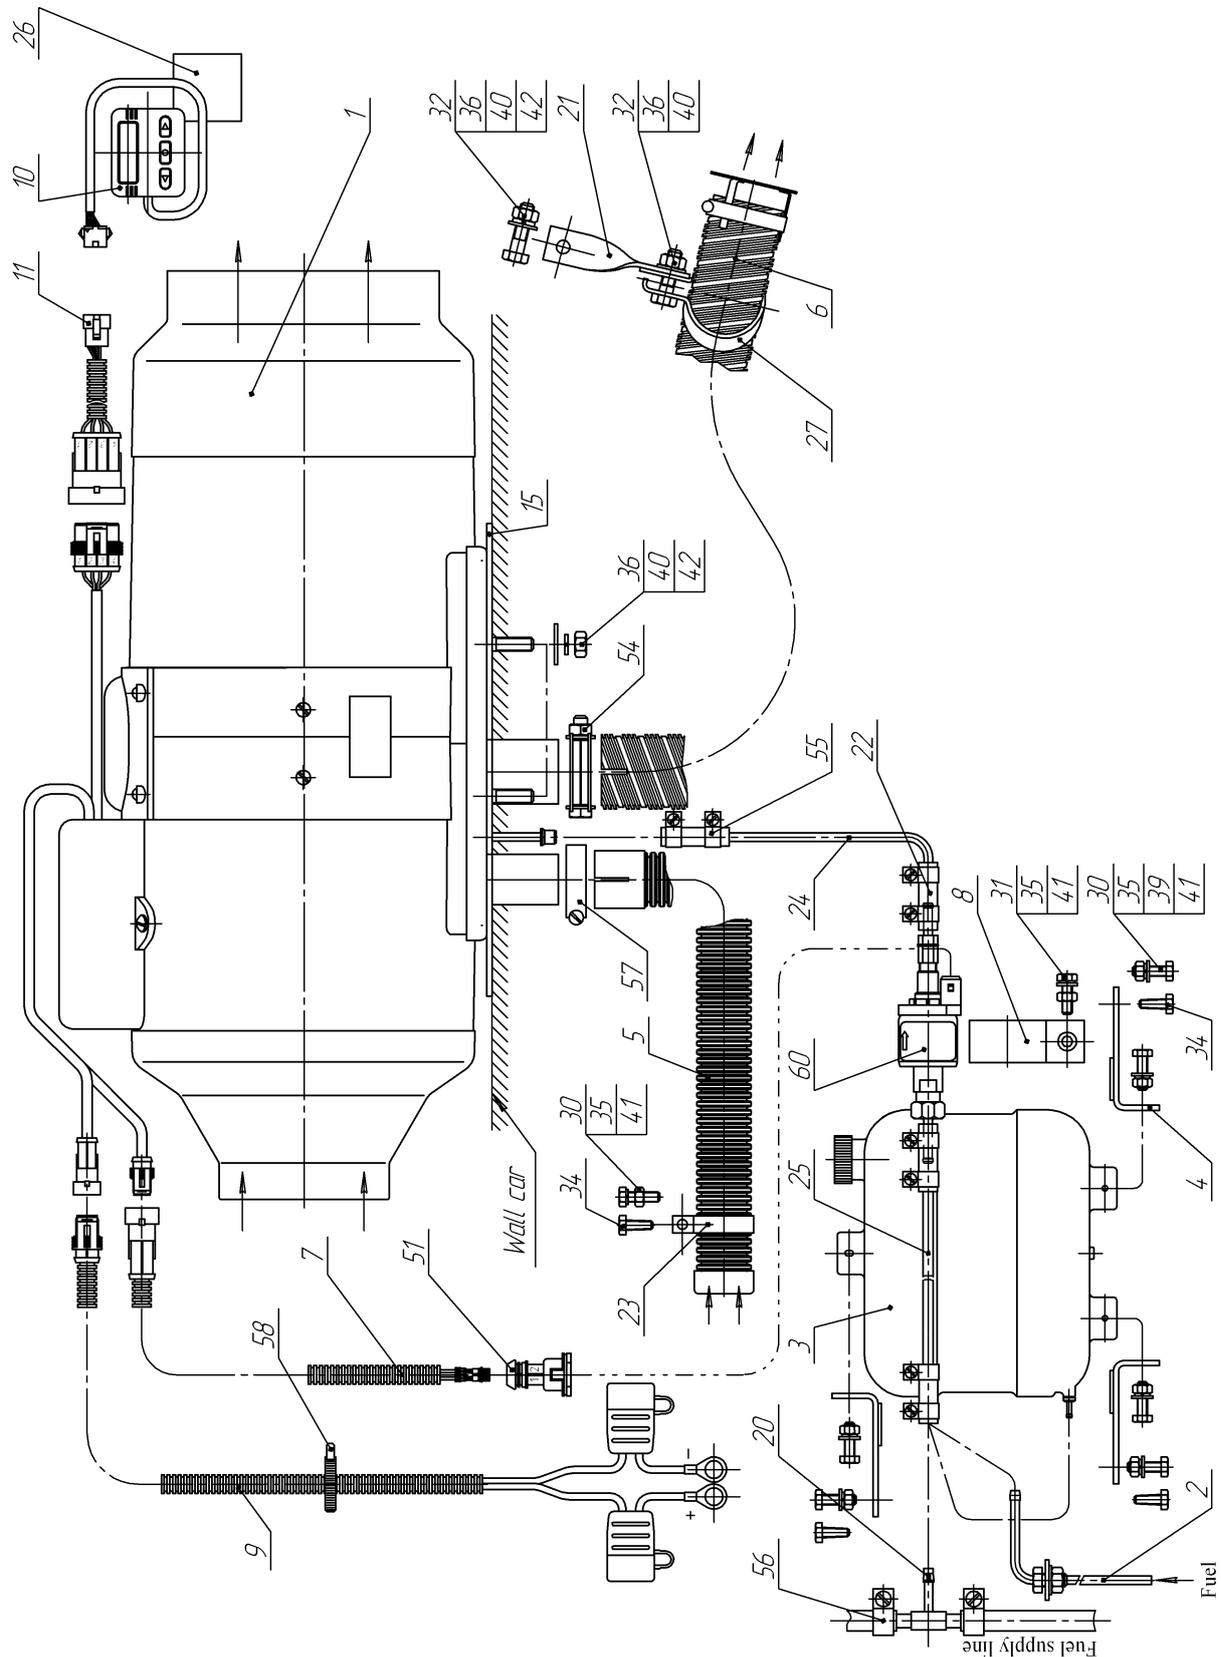
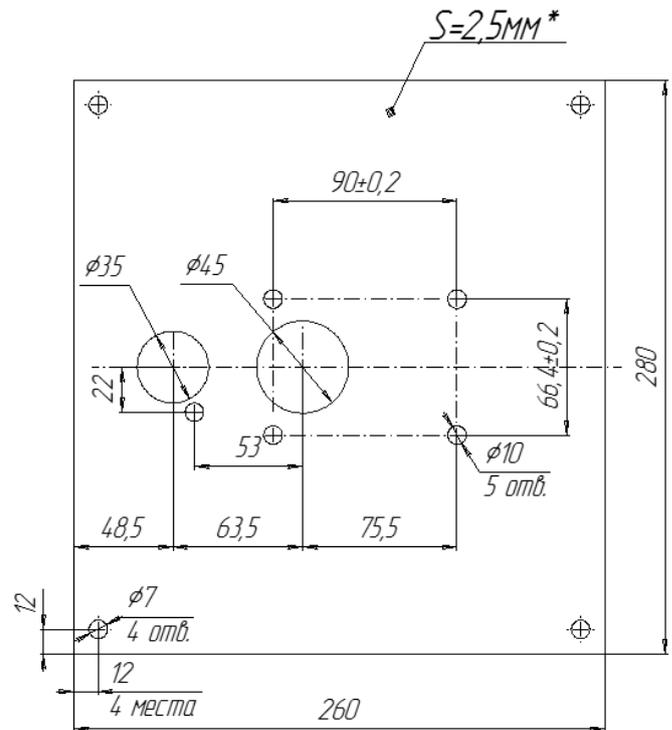

Figure 7.1 – Connection diagram of basic heater components
Figure 8.3 Mounting plate
See figure 7.1 for scope of supply and connection diagram of basic heater components PLANAR-8DM-12, PLANAR-8DM-24, PLANAR-8DM-12-TM, PLANAR-8DM-24-TM. For list of basic heater components, see table 7.1. True packing arrangement see in the packing list.
2. to attach sealing plate to the heater see figure 7.1 (this plate is possible to be made of steel sheet with min thickness 2.5 mm see figure 8.3)